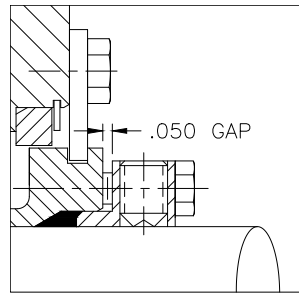

Figure 9: Step 10.
10. Tighten drive collar cap screws evenly to achieve the specified 0.050 in. gap (Figure 9).